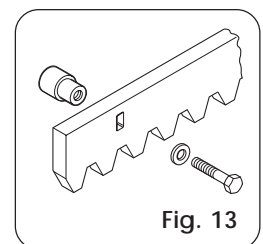

Fig. 13
4.4.1. STEEL RACK TO BE WELDED (Fig.13)